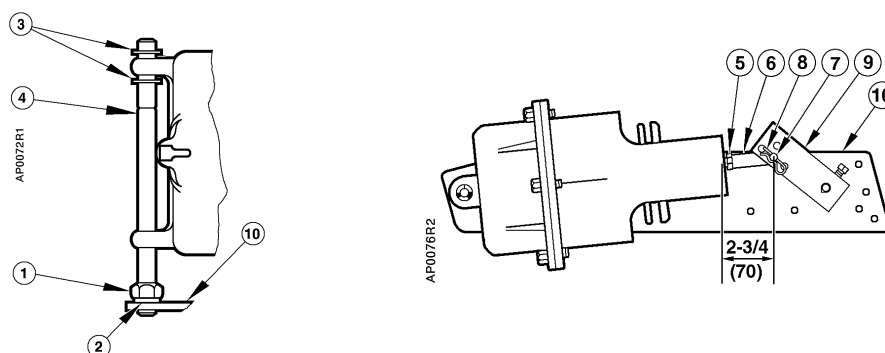

Figure 2. Extended Shaft/Frame Mounting Actuator Assembly.
- Slip the crank over the damper shaft. With the actuator assembly to the *left* of the damper shaft, an increase in actuator pressure rotates the damper blade CW when the crank is above the damper shaft, or CCW when the crank is below the damper shaft. See Figure 2.